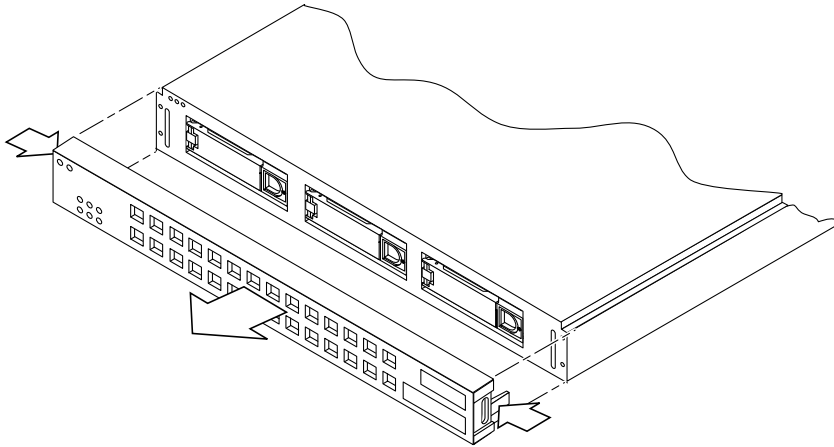

FIGURE 4-1 Removing the Front Panel
3. Remove the front panel by pressing the latches on both ends and pulling the panel away from the enclosure (FIGURE 4-1).